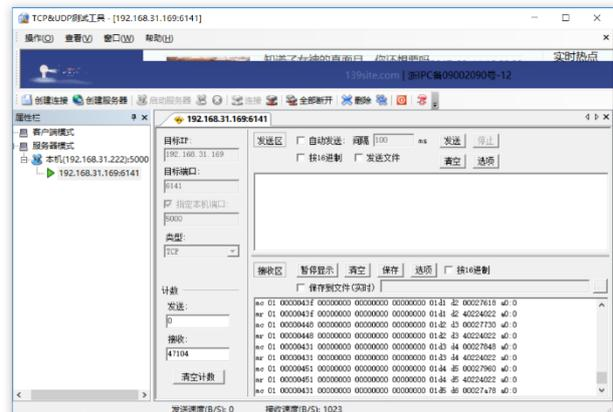

Figure 4.6.2 TCP&UDP test
- On the TCP&UDP test tool, you receive the TOF reporting Message data message via the WIFI module, as shown in Figure 4.6.2;